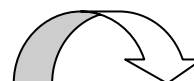

Figure 1
**ACTION:** The Brake Lever must be removed from the machine. An 11/32" hole is drilled in the lever as shown in Figure 1. This hole is tapped 1/8" NPT and the grease fitting is screwed into the lever. The lever is then reassembled on the machine. There are a total of 6 levers on each machine. Note: there is only one lever at the right and left rear wheel. If the levers cannot be removed, the entire mounting pin must be cut off and replaced.
2. Drill an 11/32" diameter hole through the lever and into the pivot hole at the location shown in Figure 1. This hole is located midway through the thickness of the lever. Tap this hole 1/8" NPT.